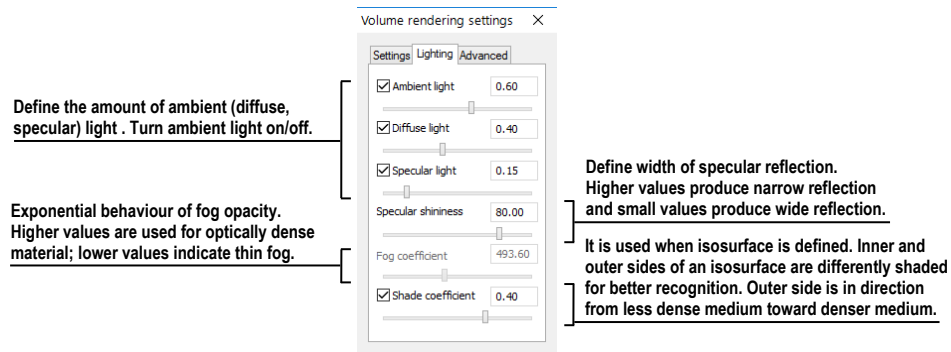

Figure 345 – Volume rendering settings, the second tab
- lighting settings used in volume rendering on the second tab (see Figure 345)